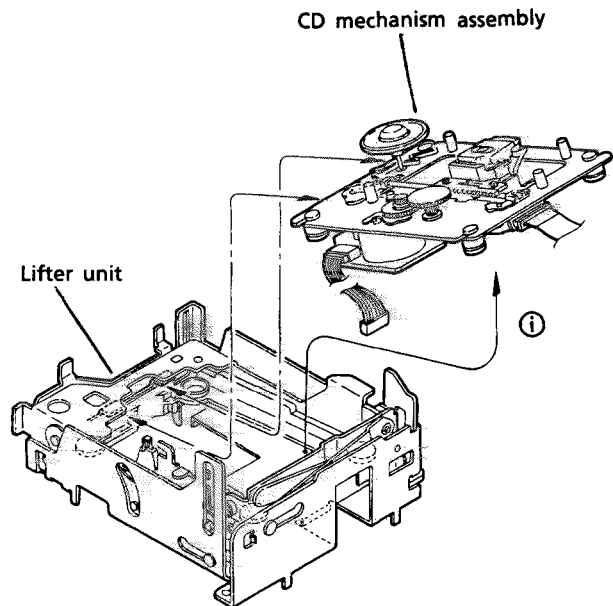

Fig. 31
2. Lift the CD mech. ass'y toward the direction ⑩ to remove it from the lifter unit. (See Fig. 31.)